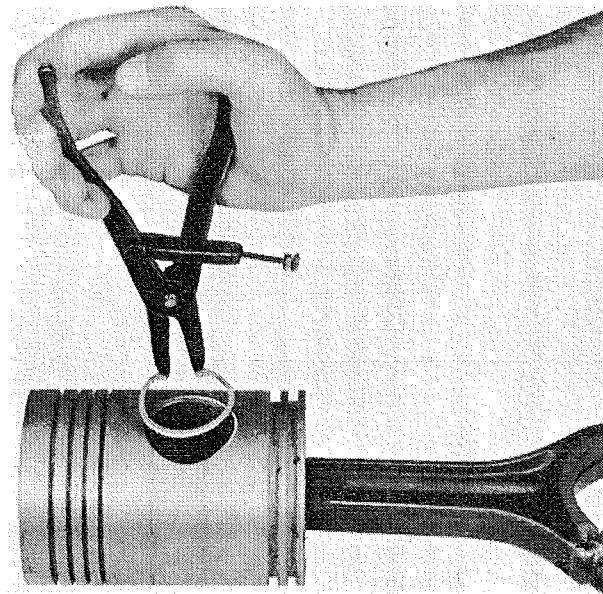

FIG. 32—REMOVING PISTON PIN SNAP RING
c. Remove the two wrist pin snap rings as shown in Fig. 32.